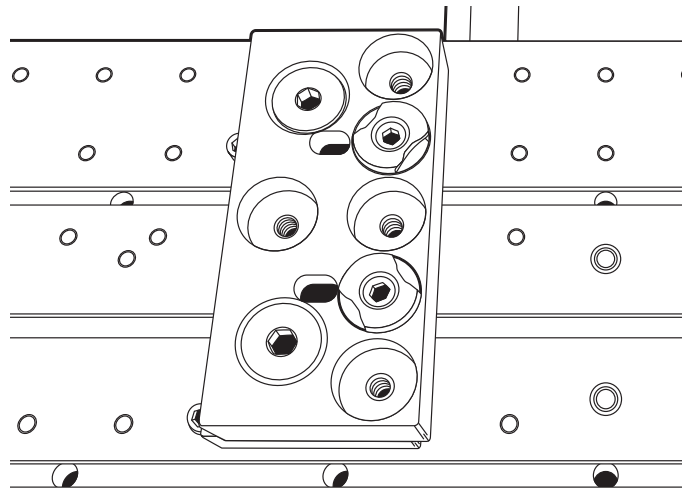

FIGURE 21
1. The 35535 top jaw mounts the same way as the 35522 top jaw. Make sure that the (5) 3/4" insert pockets are at the front of the bottom plate and facing the part when you mount it. If the top jaw orientation is correct, the back of the top jaw will be even with the back of the movable bottom plate when the clamping screws are tightened all the way (see Figure 21).